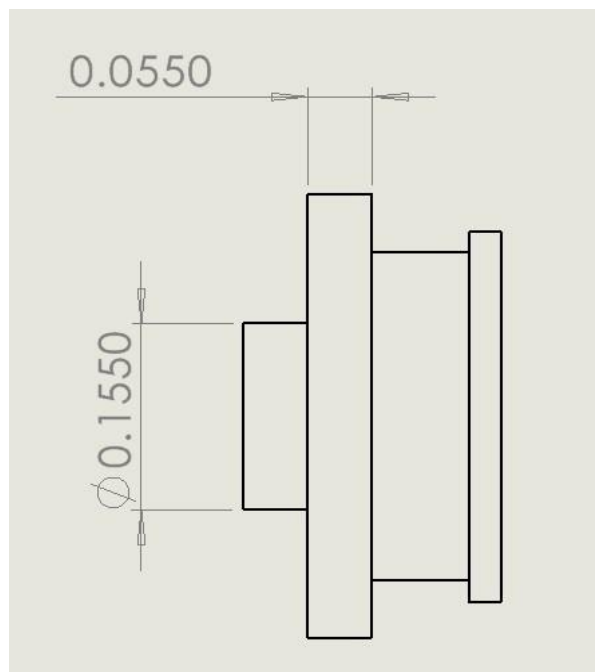

Figure 2. Maximum Allowable Wheel/Rim Dimensions
8. All four (4) tires shall simultaneously touch the test track when the car is in a static position on the test track under its own weight alone.
12. Only plastic non-independent front wheels/rims are permitted. Appendix Figure 2 shows a diagram of the maximum allowable front wheel/rim dimensions.
2. Figure 2 shows the maximum dimensions (in inches) for wheels/rims in case you intend to use old-stock or legacy rims from manufacturers no longer producing wheels/rims. This specification is included to eliminate old-stock or legacy heavyweight wheels/rims.